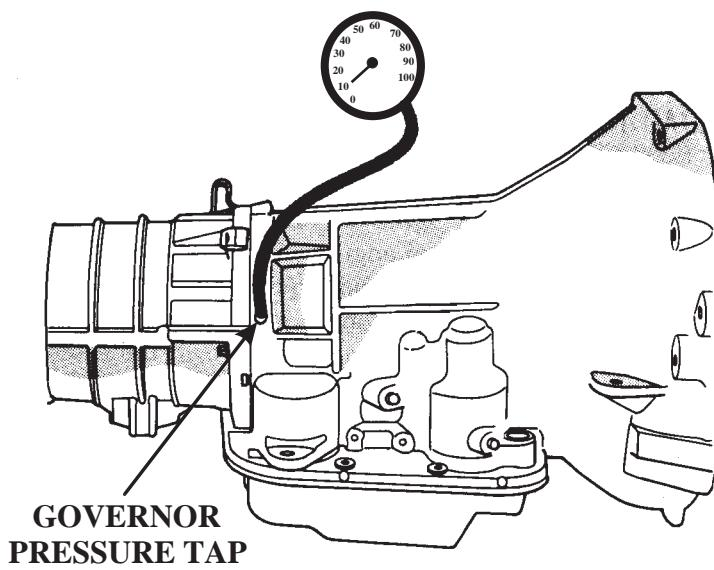

Figure 1
- (2)** Chryslers dedicated DRB III scanner displays governor pressure sensor values that the computer monitors. The governor pressure sensor provides information to the computer as to the approximate pressure in the governor circuit. If at a stop, the sensor tells the computer that 0 PSI is in the governor circuit, but a pressure gauge reveals that there is actually 12 PSI in the governor circuit, the computer does not know to cycle the governor solenoid to a lower pressure since it already thinks it is at 0 PSI. If the sensor indicates that 12 PSI is in the governor circuit, and the pressure gauge verifies it, this means that the sensor is working properly and the governor pressure solenoid is most likely defective and will need to be replaced.
- (3)** Without the DRB III scanner, voltage checks will have to be made on the governor pressure solenoid wire, and the governor pressure sensor wire with your DVOM, while a pressure gauge is attached to the governor pressure port as shown in Figure 1. Following is the procedure for these tests.